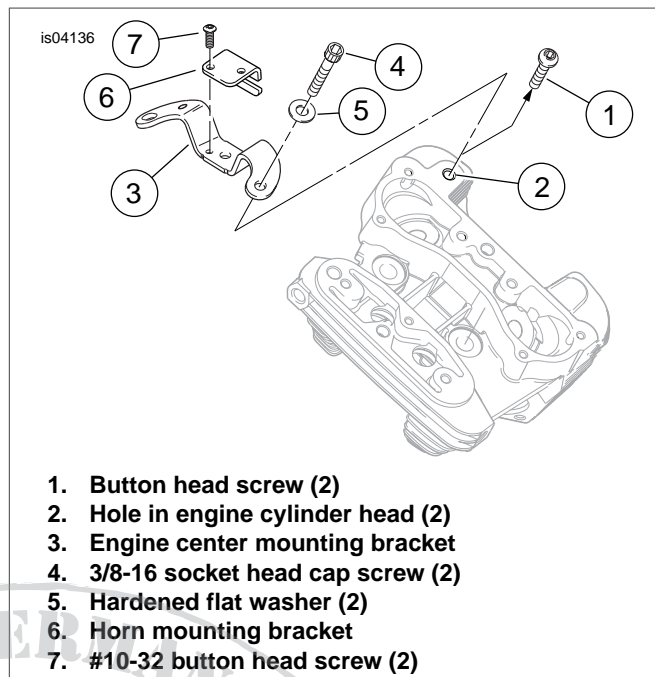

Figure 3. Engine Center Mounting Bracket (2007 and Later)
For 2007 and later models: See Figure 3. Remove the two button head screws (1) from the holes (2) in the engine cylinder heads.
5. Position the new engine center mounting bracket (3) over the holes, and secure with the two 3/8-16 x 1-1/4 in. long socket head cap screws (4) and hardened flat washers (5) from the kit. Tighten the screws to 17-24 ft-lbs (23.0-32.5 Nm).